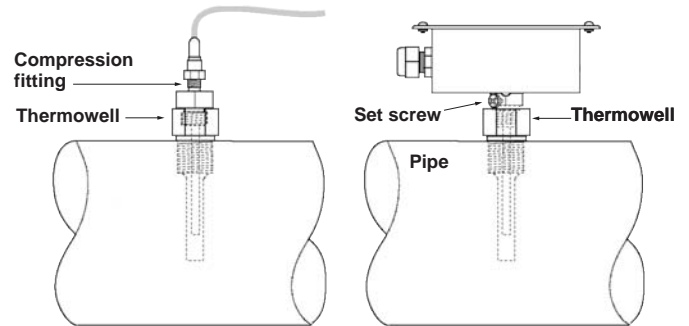

Figure 1 - Installing the Immersion Sensor
- Loosen the compression fitting and remove the probe. Refer to **Figure 1**.
- Loosen the set screw. Refer to **Figure 1**.